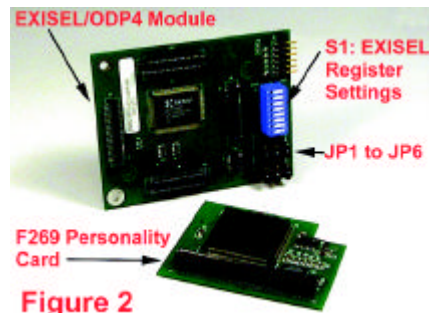
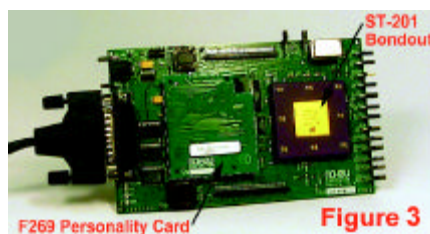

Figure 2
Figure 3
A daughtercard containing a production F269 is plugged into the emulator board of the EMUL-ST10. Figure 2 shows the F269 daughtercard. Figure 3 shows it installed in the emulator.
These are new registers on the F269 that are not supported by the current ST10-201 bondout controller. Nohau does an electronic replacement of these registers with the optional EXISEL/ODP4 module as shown in Figure 2.
EXI0SS to EXI3SS are programmed by setting the dip switch S1 and selecting JP3 to JP6 (Figure 2) on the module.
- Install the daughtercard in Figure 3.